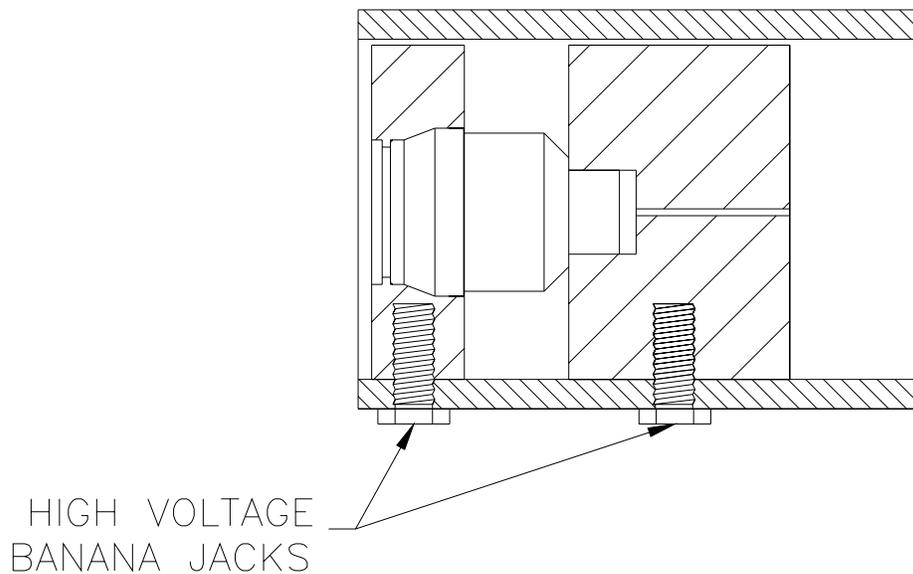

**Fig 3. Thermal Compound Application**
6. Apply a light coat of the thermal compound (supplied with the lamp) on the window collar (cathode side -) of the lamp. See Figure 3. Insert the lamp into the cathode heat sink by aligning the pinch off tube with the recess in the heat sink. Secure the lamp by replacing the clip.
7. Apply a light coat of the thermal compound (supplied with the lamp) on the anode base and rear of the lamp. See Figure 3. Insert the anode base into the anode heat sink such that the terminal holes are aligned to each other and assuring the rear of the lamp comes in contact with the heat sink. Secure the lamp by replacing the clip.